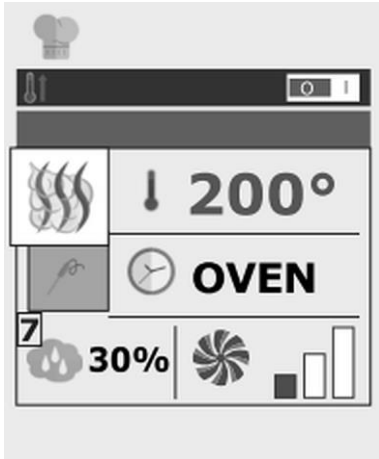

Fig. 13
1. To set the desired level of humidity, press key 7 (Fig. 13) and set the value.